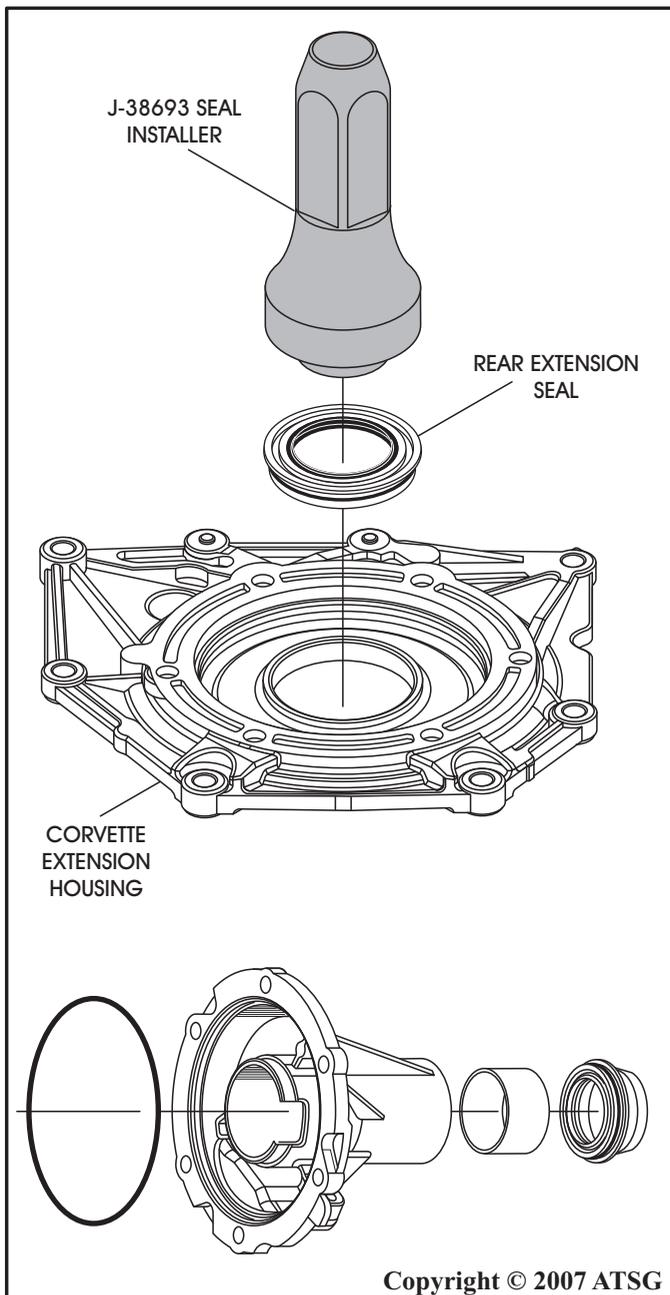

Figure 152
1. Install a new metal clad seal into the extension housing, as shown in Figure 152, using proper seal driver.
*Note: Corvette version is illustrated, 2WD version is also shown in Figure 152.*